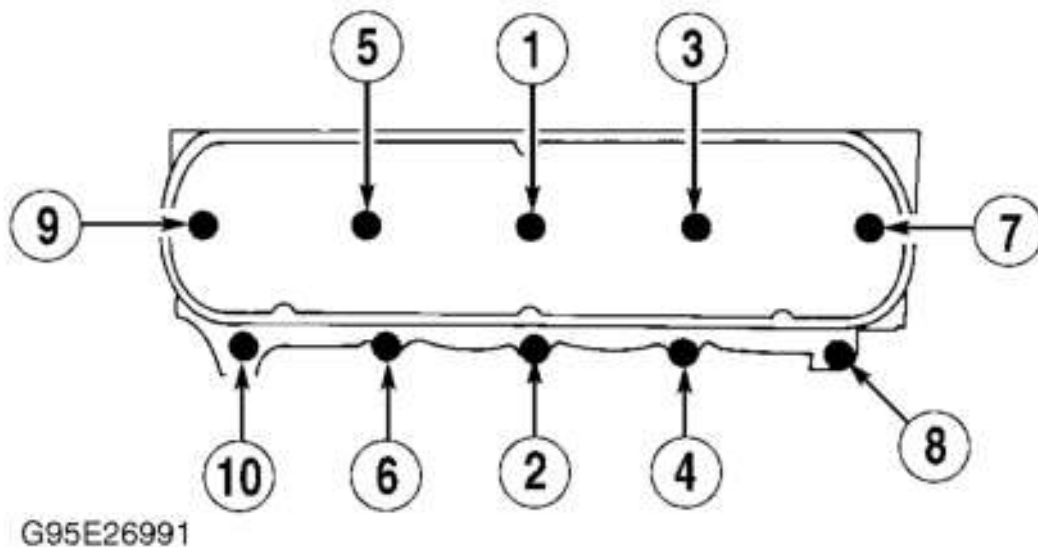

Fig. 4: Cylinder Head Bolt Tightening Sequence
5. Remove cylinder head bolts in reverse order of tightening sequence. See **Fig. 4**. Remove cylinder head and gasket.
1. Ensure gasket mating surfaces are clean and flat. Properly install NEW cylinder head gasket as marked on gasket. DO NOT use sealer on head gasket. Install cylinder head and bolts. Tighten bolts in sequence to specification. See **Fig. 4**. See **TORQUE SPECIFICATIONS**.